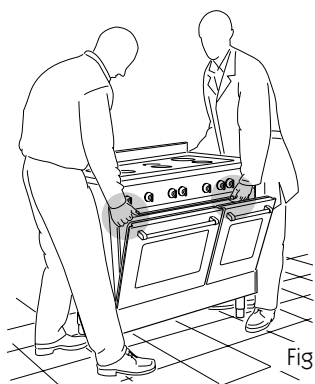

Fig. 7.3
**When raising cooker to upright position always ensure two people carry out this manoeuvre to prevent damage to the adjustable feet (fig. 7.3).**
Lift feet clear of floor (fig. 7.3).